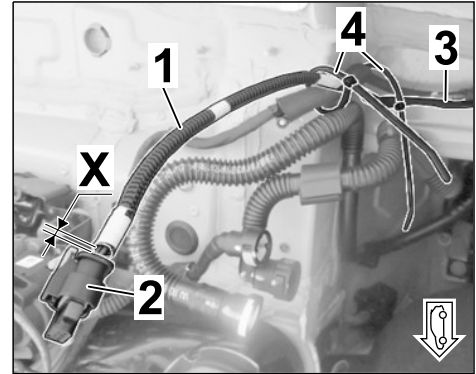

Figure 25
- 3.4.5 Install corrugated hose 4.5 x 7.6 x X to each branch from a distance of approx. 30 mm from the connector (socket housing 4-pin) to the underbody (⇒ *Figure 25*).
- 3.5.1 Check slot D3 in fuse strip D (brown) in the fuse box in the left footwell A-pillar (⇒ *Figure 25*).